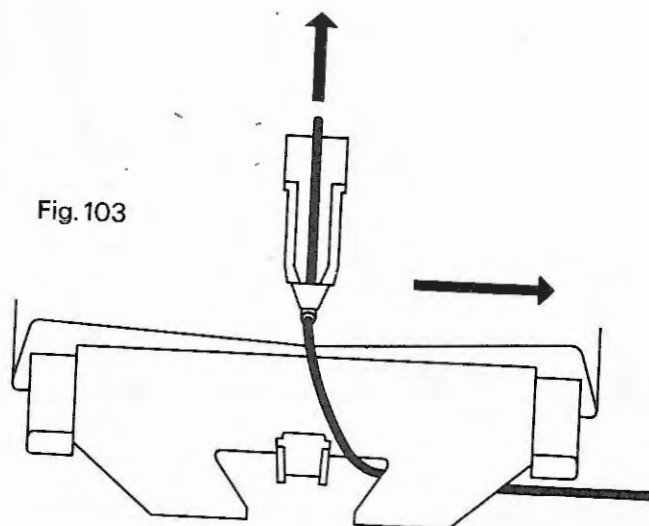
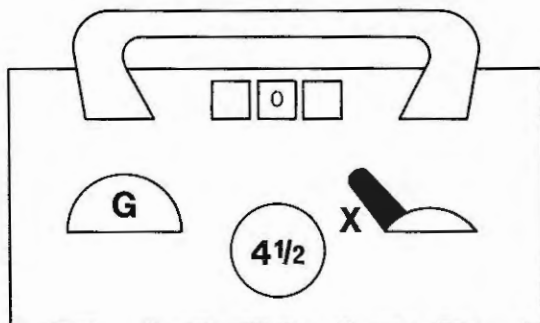

Fig. 103
Fig. 104
1. If you did not obtain a neat row of stitches, this can only be due to the fact that when casting on, you did not wind the yarn tightly enough around the needles. Take feeding eyelet from the socket, fig. 103, and move lock to the right, without knitting, thus dropping off the faulty casting on. Feeding eyelet into socket and cast on again
Take feeding eyelet from the socket, fig. 103, set lock at GX (free move), fig. 104, and try to push it carefully in the direction in which it moves most easily.